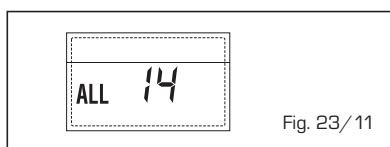

Fig. 23/11
**- ANOMALIA DO VENTILADOR “ALL 15” (fig. 23/12)**